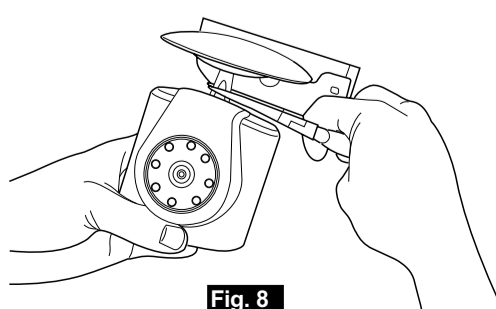

Fig. 8
**Note:** After adjusting the viewing angle, make sure the camera body is attached to the pivot of the bracket tightly. If it is loose, use one hand to hold the camera body steady, and with the other hand, use pliers to pinch the flat surfaces on the pivot, swivel the pivot clockwise to tighten. See Fig. 8.